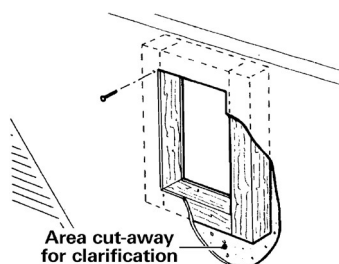

Fig. 6
- ▶ If there are any cavities in the area of the cowl, pack these with pieces of wood so as to be able to tighten the screws (Fig. 6).